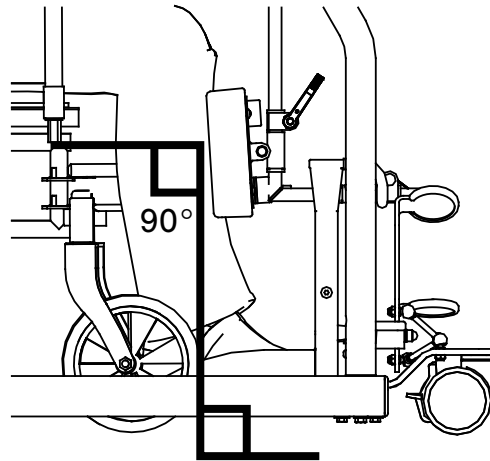

Figure 4
3. Move the Vista toward patient until their feet are completely supported by the footrest and their legs are in a position as close to 90 degrees as possible (Fig. 4).